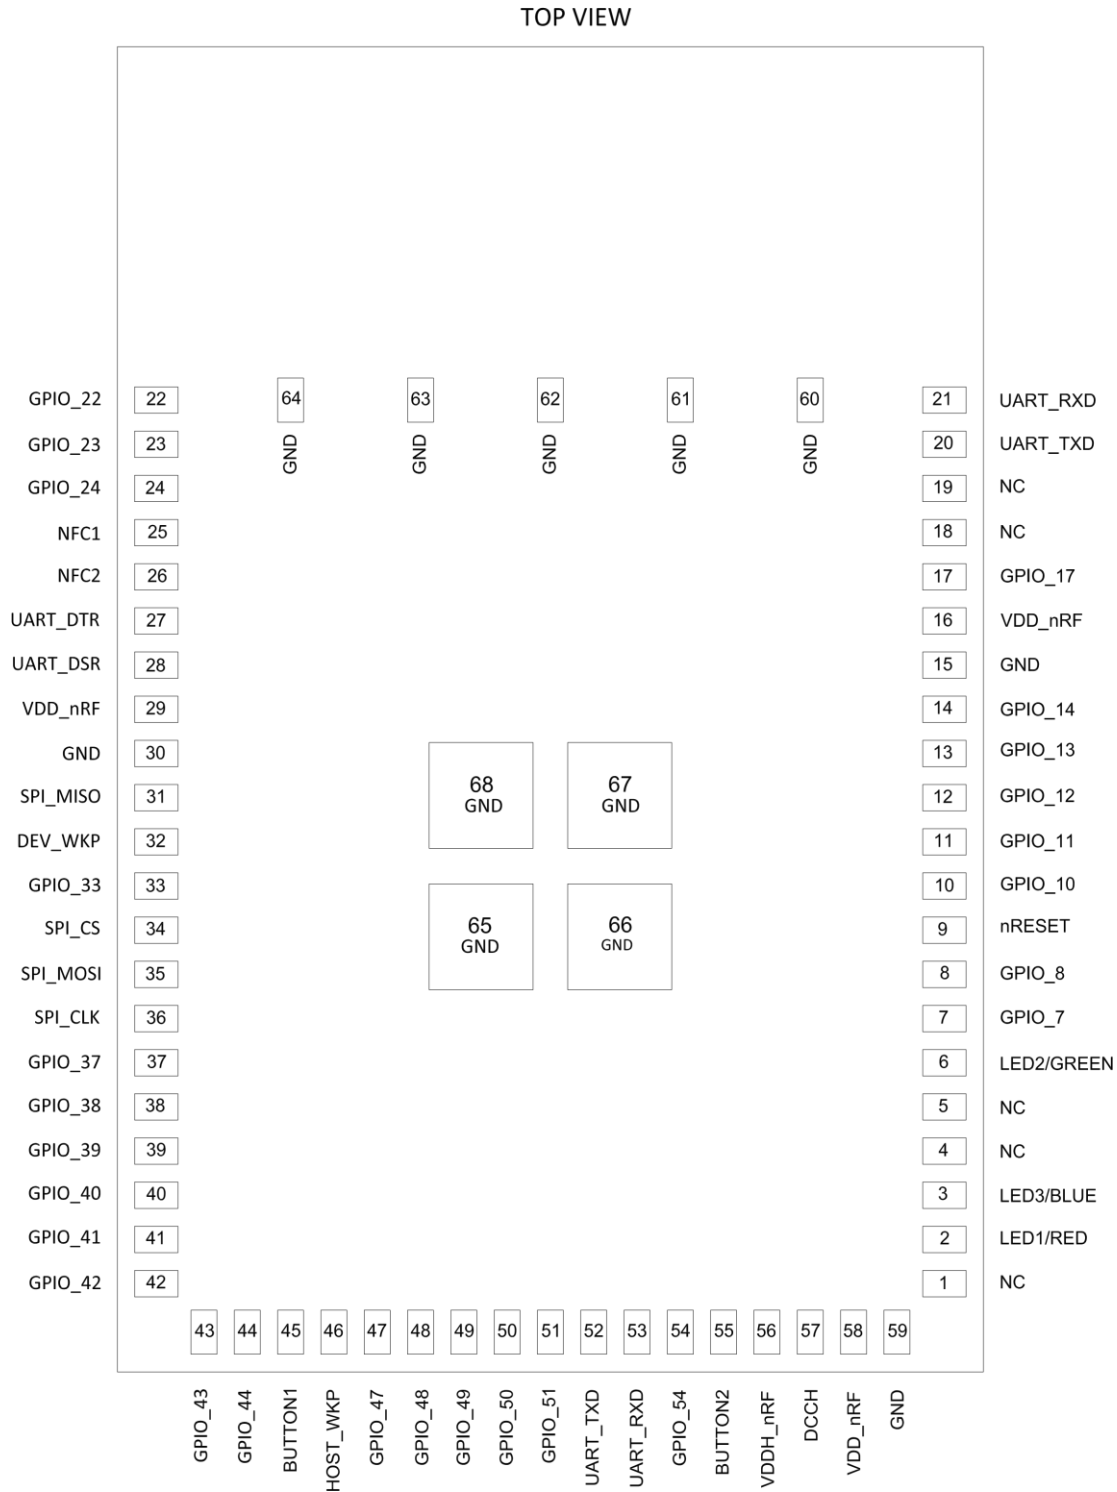

Figure 2: RENO Module pin out
- Figure 2: RENO Module pin out 7